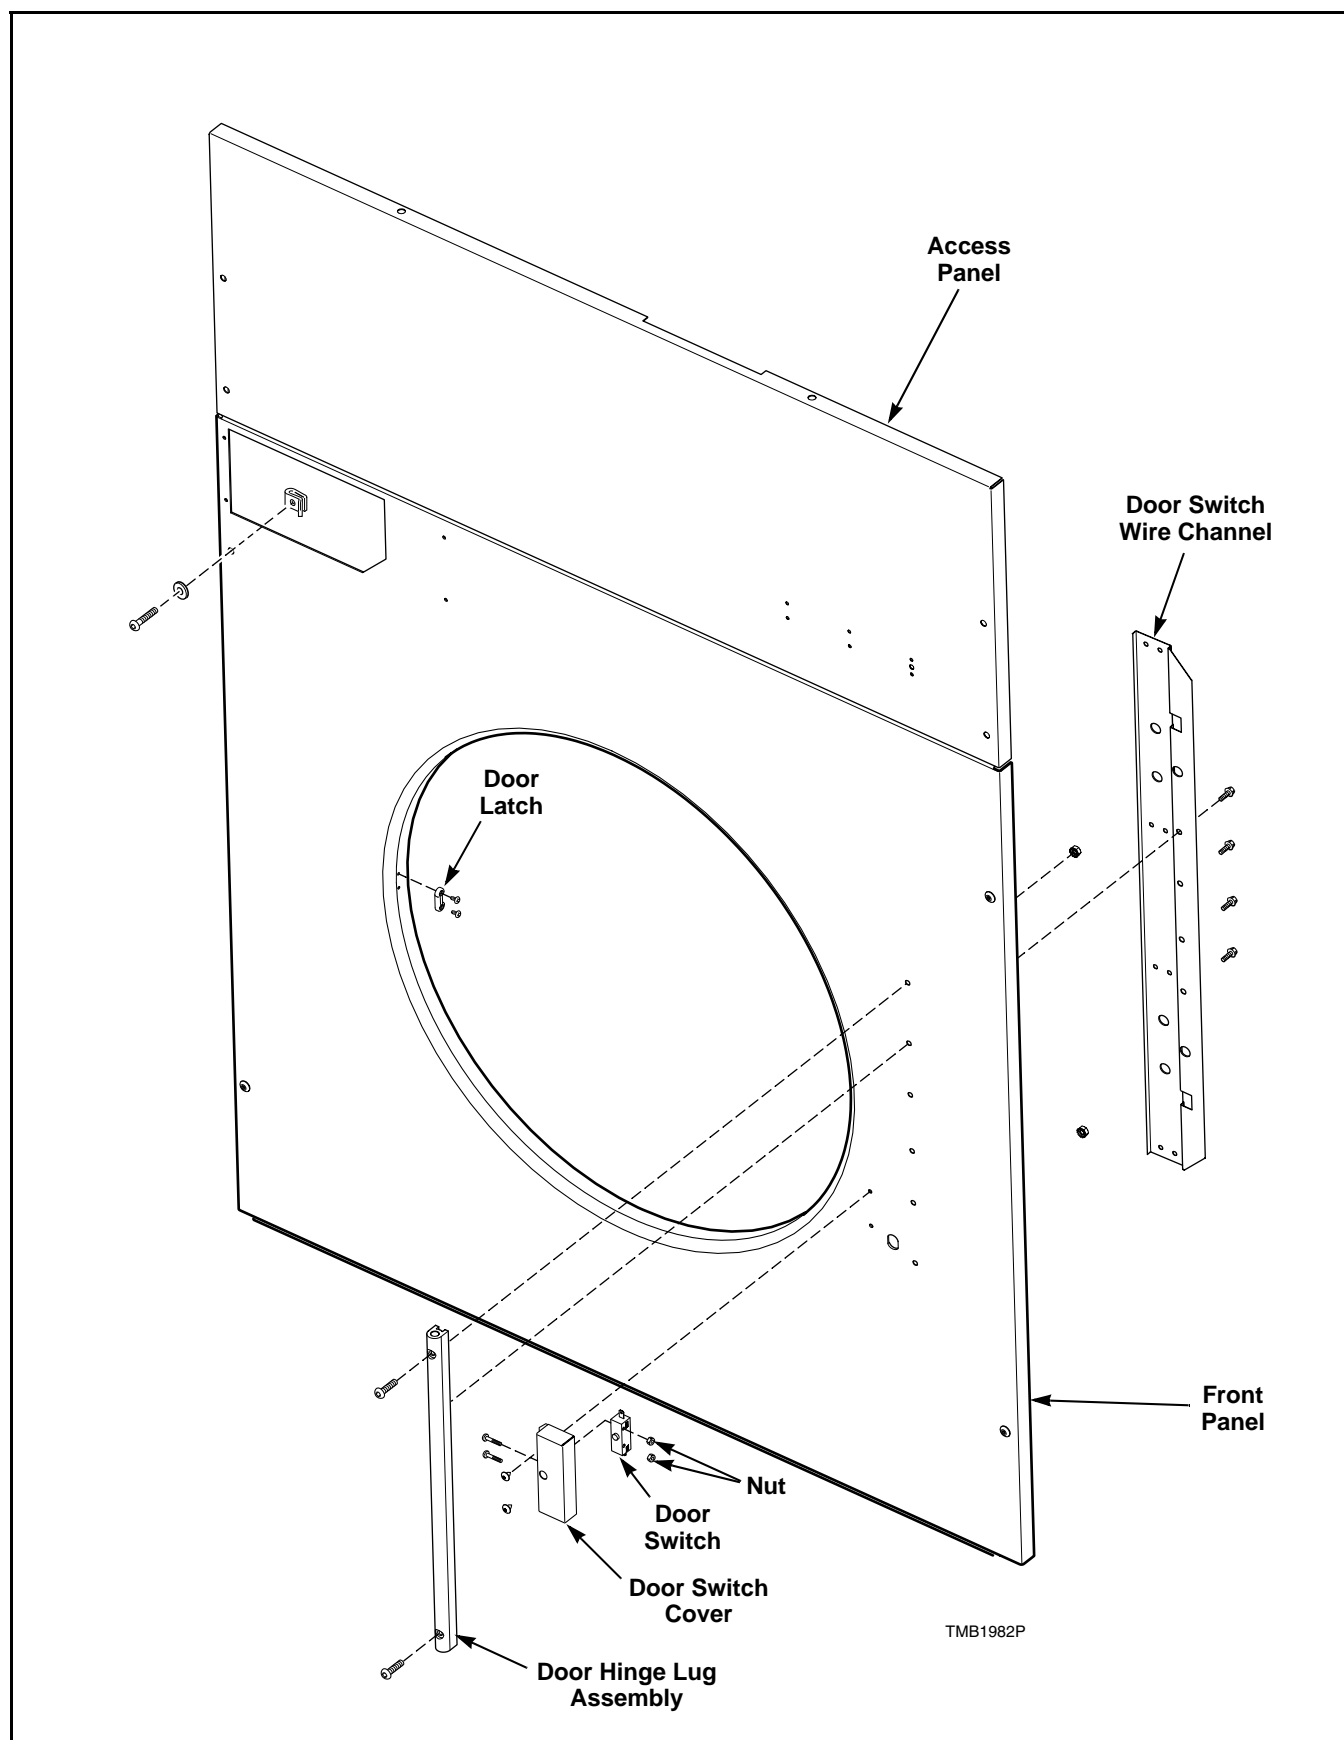

Figure 6
- a. Remove four screws holding access panel to cabinet. Refer to *Figure 6*.
- b. Lift access panel off top edge of front panel and set aside to prevent damage. Refer to *Figure 6*.
- m. Support front panel and remove screws holding front panel to tumbler cabinet. Refer to *Figure 6*.
- k. Remove four screws securing front panel to cabinet frame. Pull front panel forward, disconnecting door switch harness plug at upper right corner of front panel to frame. Refer to *Figure 6*.
- b. Lift access panel off top edge of front panel and pull panel forward. Refer to *Figure 6*.